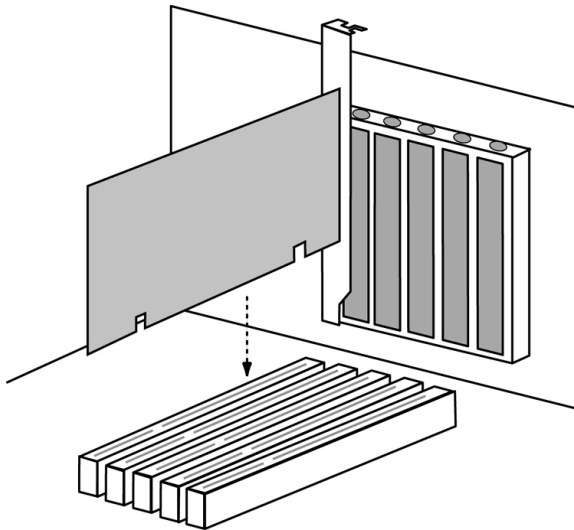

Figure 1. Insert the SATA150 TX Series card into an open PCI slot.
3. Install the SATA150 TX Series Controller card into the open slot (see Figure 1 below). Secure the bracket to the system's frame.